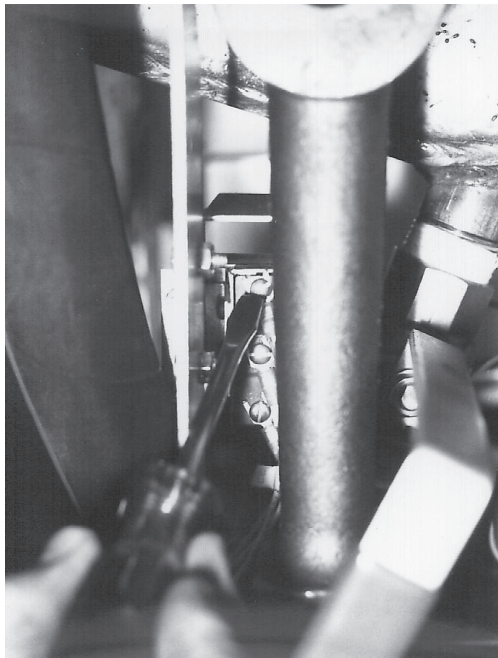

Fig. 33
10. Note and remove the limit body wiring. (Fig. 33)